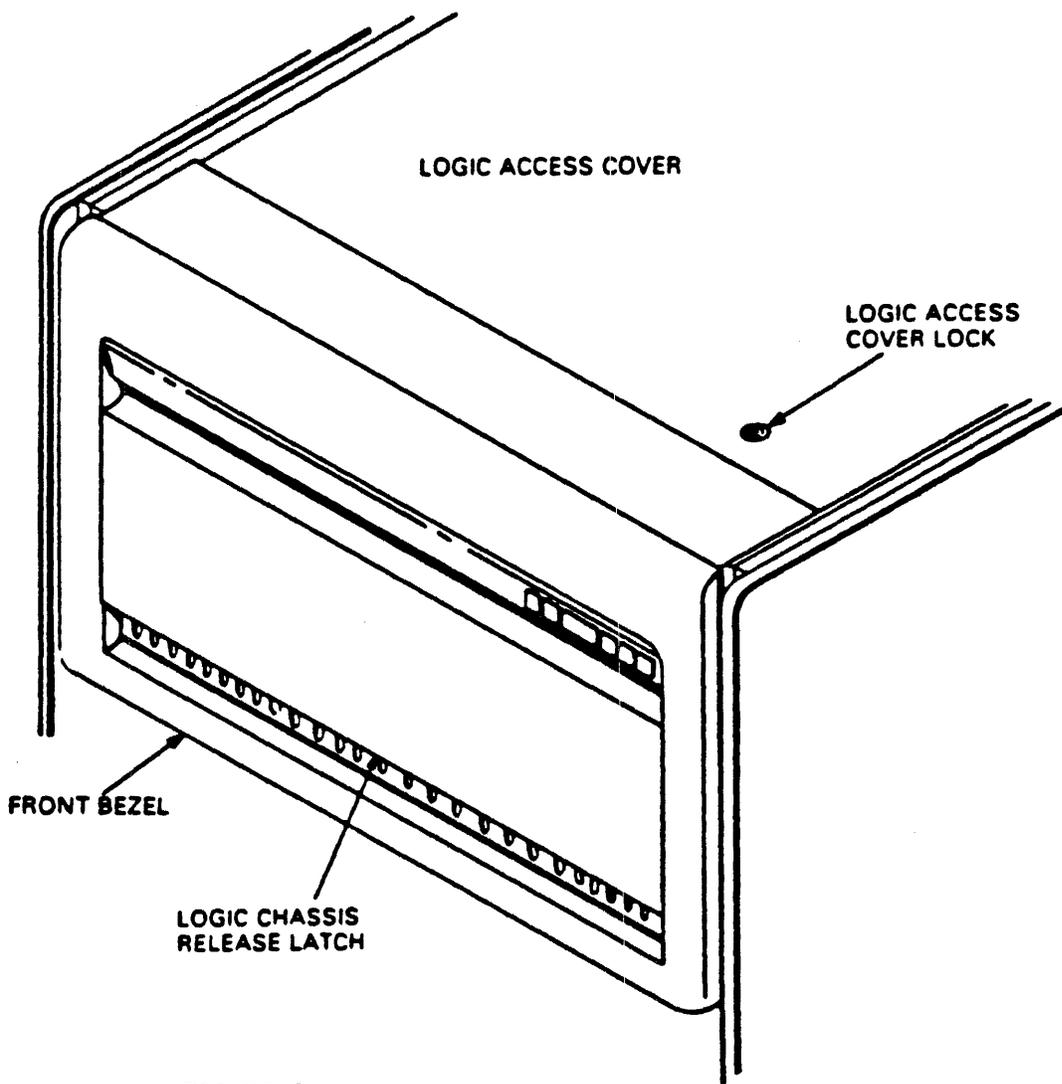

FIGURE 6
11. Depress the logic chassis release latch with a standard screwdriver and raise the chassis. (Figure 6)